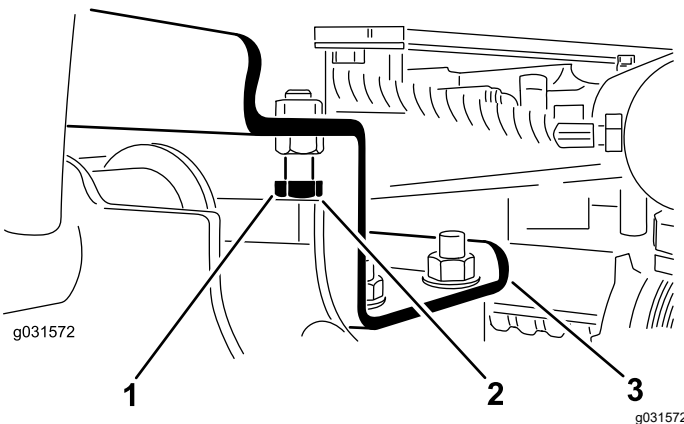

Figure 12
- A. Back off the stop bolts (Figure 12).
2. Ensure that the clearance between each lift arm and stop bolt is 0.13 to 1.02 mm (0.005 to 0.040 inches) as shown in Figure 12.